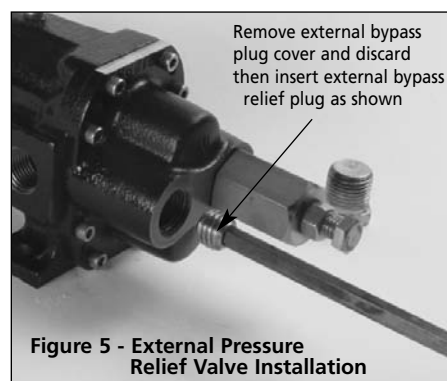

Figure 5 - External Pressure Relief Valve Installation
8. The pressure relief valve can be converted to an external relief. This will allow the relief to dump back to tank and allow longer periods of relief without pump damage. However, this is not a full-line relief valve, and in cases where frequent extended relief valve operation is anticipated, a full-line external relief valve should be piped in the discharge line and connected either back to the tank or well downstream of the pump suction inlet (See Figure 5).
and discard. This plug is next to the relief valve. In the bottom of the NPT hole, there is a second drilled and tapped hole. An optional external bypass plug (Ref. No. 31 included) should be inserted in this hole and bottomed out. The open NPT port must now be piped back to the tank or well downstream of the pump suction (See Figure 5).